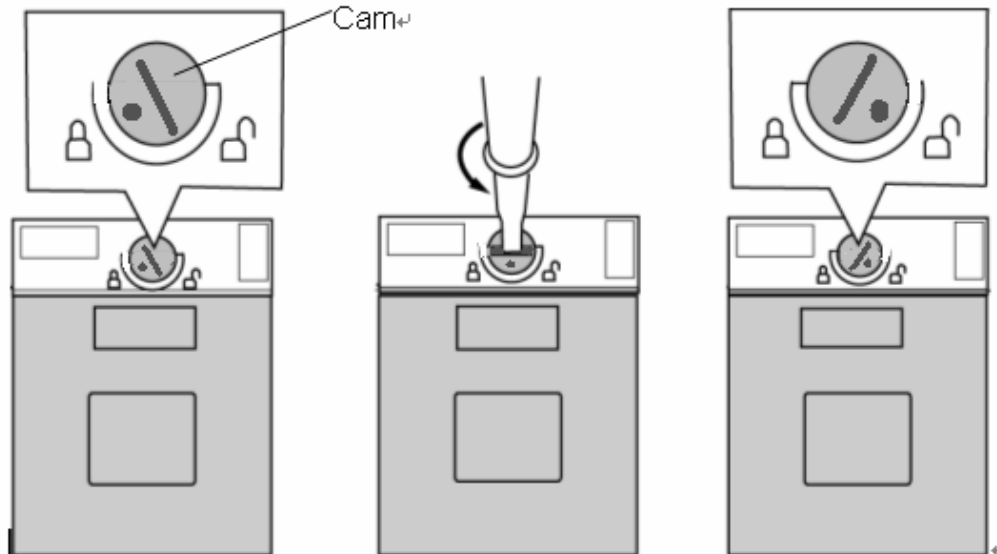

Figure 4-26 Remove the CPU
3. Remove the following **screws** securing the system board and remove the **system board**. (See Figure 4-26)
The following describes the procedure for installing the system board (See Figure 4-26).